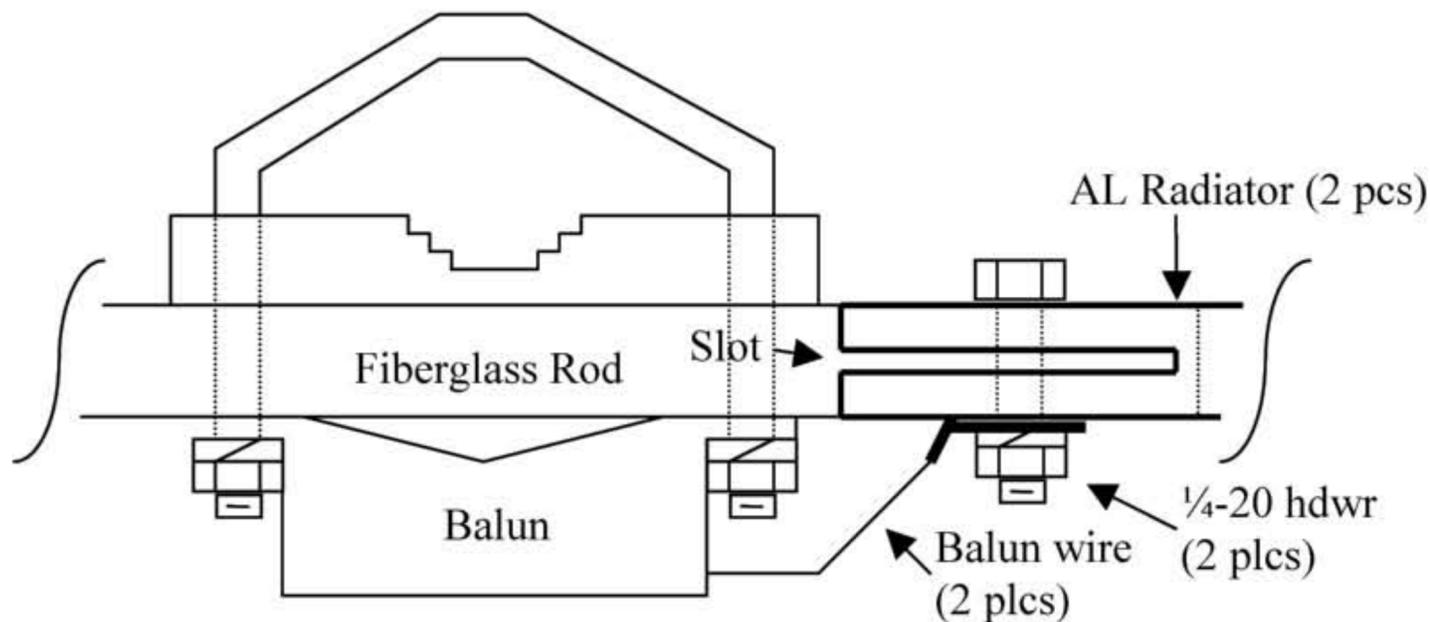

Figure 3: Radiator Tube Assembly – Top View
- 7) Slide the 1-1/8 x 60" aluminum radiator tubes over the center insulator/balun assembly with the slot on each aluminum tube on the topside of the fiberglass rod/balun assembly. Insert the 1/4-20 bolts through the aluminum tube/fiberglass assembly and through the balun lugs. Add the 1/4-20 split lock-washers and nuts and tighten securely. See Figure 3.